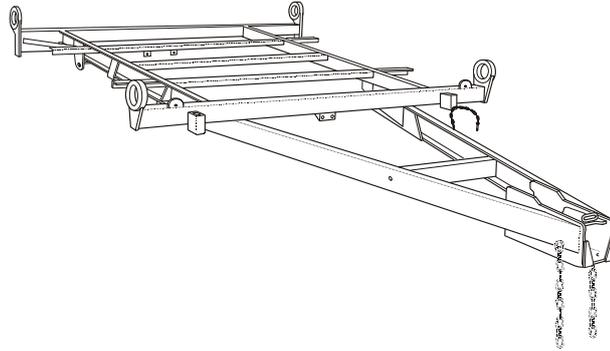

Figure 6 Drawbar and Main Frame Assembly
22. Drawbar and Main Frame. The drawbar and main frame runners (Figure 6) are prefabricated using zinc plated 4 mm steel channel sections. Frame crossmembers are constructed of RHS sections.